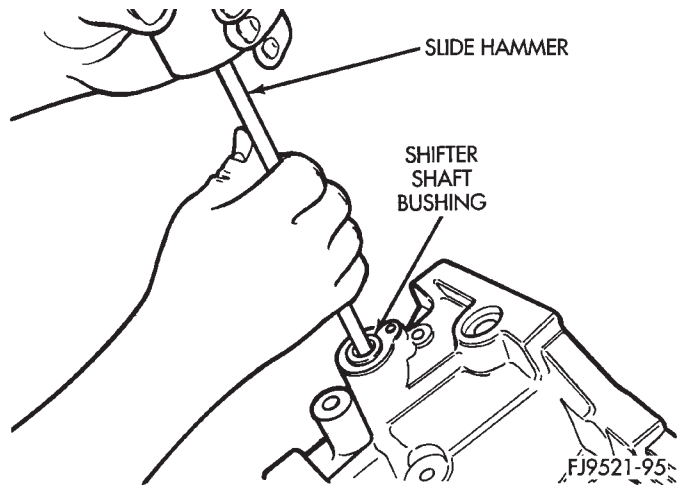

Fig. 146 Crossover Shaft Bushing Removal
- (1) Install slide hammer #3752 through the crossover bushing.
- (2) Thread nut and washer onto slide hammer.
- (3) Using the slide hammer, remove the crossover shaft bushing (Fig. 146).